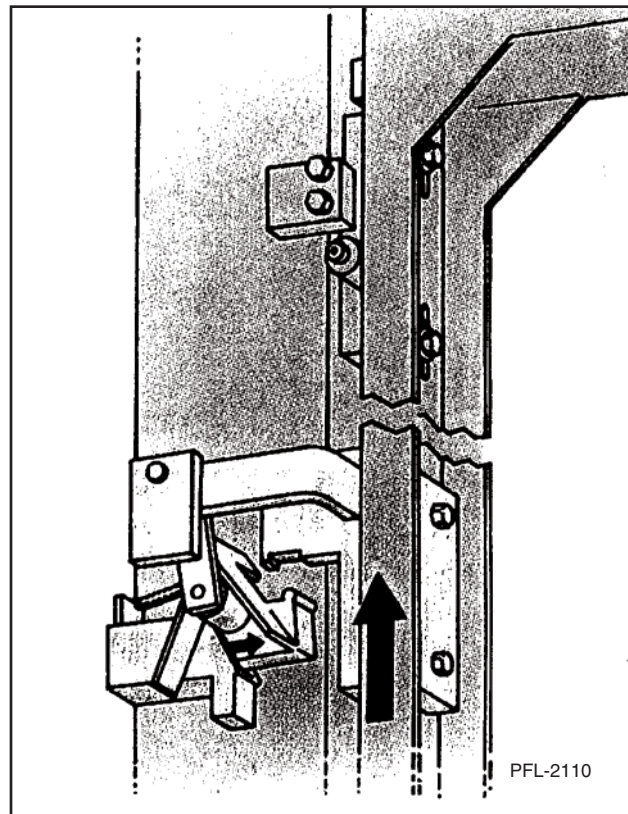

Figure 11
4. The vertical lift carriage is raised to slightly above desired first level activating the reversing limit switch, which shuts off the pump motor unit, and immediately opens the dump valve, which allows downward travel. Decklock system is automatically activated. See Figure 11.